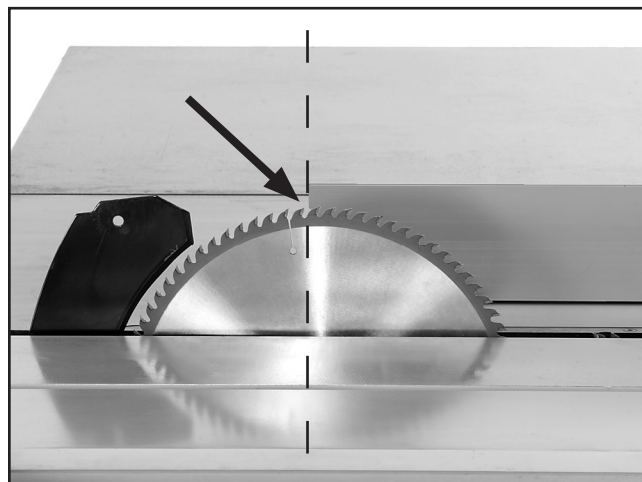

Figure 55. Rip fence even with center of blade (blade guard removed for clarity).
5. Slide the leading end of the rip fence so it is even with the center of the main saw blade as shown in **Figure 55**.